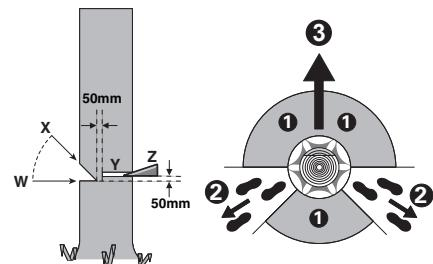

Figure 1
An escape path should be planned and cleared as necessary before cuts are started. The escape path should extend back and diagonally to the rear of the expected line of fall as illustrated in Figure 1.
Make the notch 1/3 the diameter of the tree, perpendicular to the direction of falls as illustrated in Figure 1. Make the lower horizontal notching cut (W) first. This will help to avoid pinching either the saw chain or the guide bar when the second notch (X) is being made.
Make the felling back cut (Y) at least 50 mm higher than the horizontal notching cut as illustrated in Figure 1. Keep the felling back cut parallel to the horizontal notching cut. Make the felling back cut so enough wood is left to act as a hinge. The hinge wood keeps the tree from twisting and falling in the wrong direction. Do not cut through the hinge.
alert for overhead limbs falling and watch your footing. (See Figure 1)